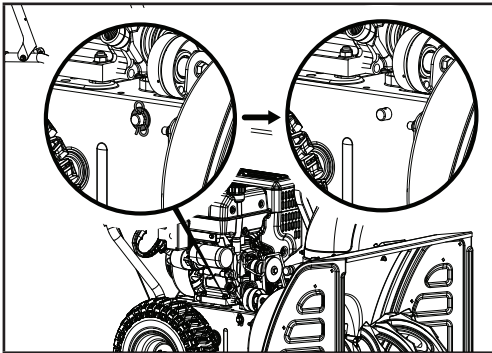
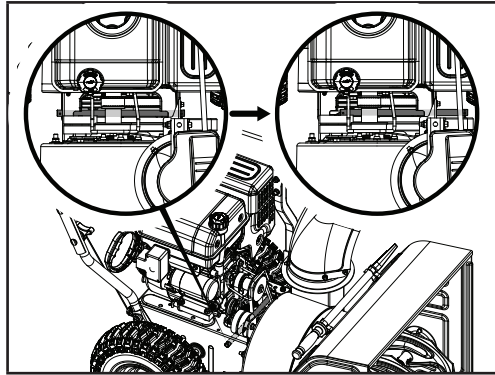

Figure 28A
Figure 28B
2. Remove clip and washer (Fig. 28A), pull support rod ½ way out from other side of snowblower (Fig. 28B).